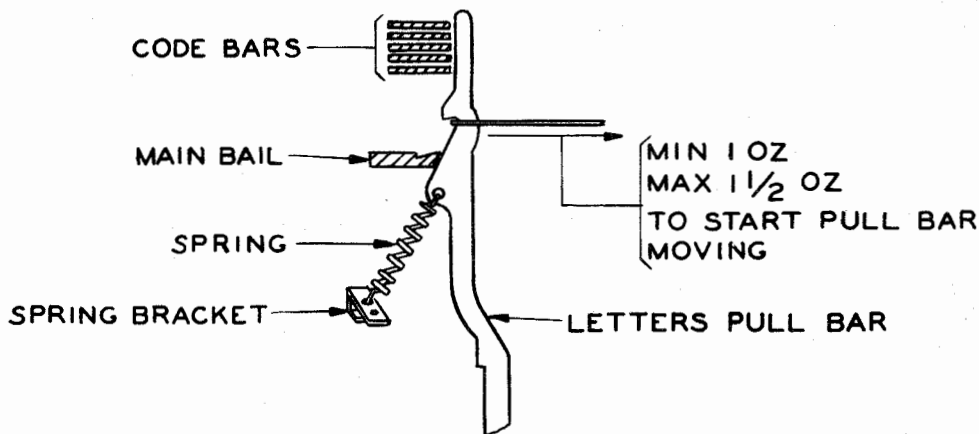

Figure 27
2.58 LTRS Pullbar Spring tension shall be minimum 1 ounce, maximum 1-1/2 ounces, measured when the main bail is in the down position. (See Figure 27.)